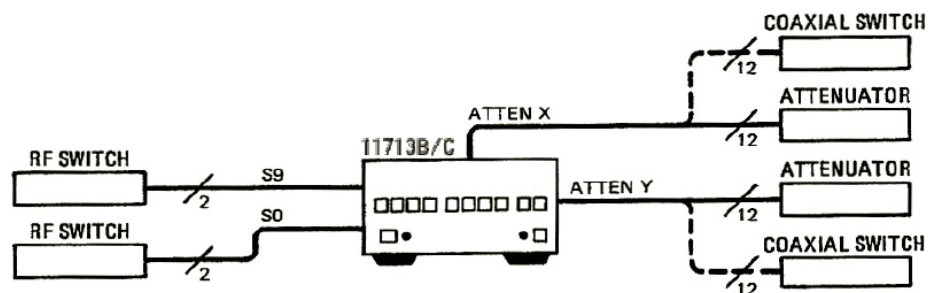

Figure 4-1 Switching system for verification
- 1 Configure the switching system as illustrated in Figure 4-1 by following all steps described in Chapter 5, "Local Operations".